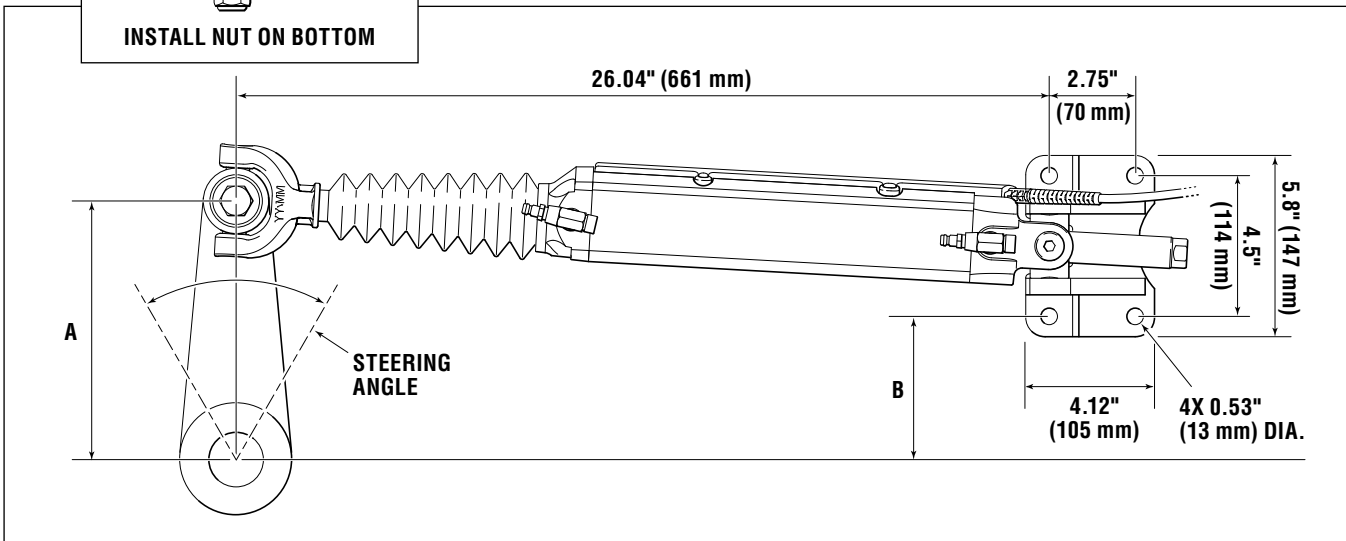

Figure 5-15.
3. Place mounting foot in location indicated in figure 5-15 and table 5-2 for desired steering angle. Shim under the feet as necessary to make the cylinder as level as possible. Vertical misalignment will accelerate cylinder wear.